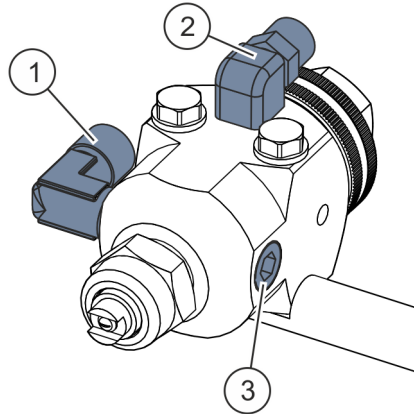

Fig. 4: Connecting the automatic spray gun
1. ➤ Connect the control air to connection for control air ( Fig. 4/2).
2. ➤ Connect the material line to the connection of the material supply ( Fig. 4/1).
3. ➤ Remove lock screw ( Fig. 4/3) and closing plug.
*If no material circulation is used, one side must be closed with a closing plug and lock screw ( Fig. 4/3).*